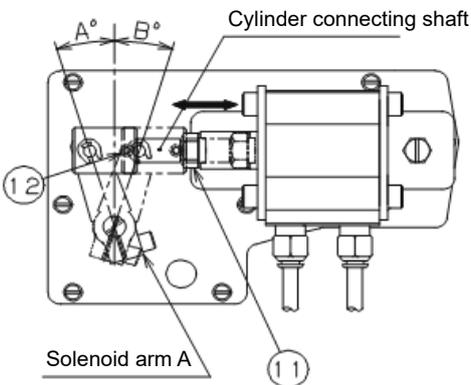

Fig. 23
Turn on the motor and depress the back part of the pedal to move the air cylinder. At this time, visually check that the operating angles A and B of the solenoid arm A are equal. If they are not equal, loosen the cylinder connecting shaft nut ⑪ (one place) and solenoid collar setscrew ⑫ (one place), turn the cylinder connecting shaft, and adjust solenoid arm operating angles A and B so that they are equal. After adjustment, tighten the cylinder connecting shaft nut ⑪ (one place) and the solenoid collar setscrew ⑫ (one place). (Fig. 23)